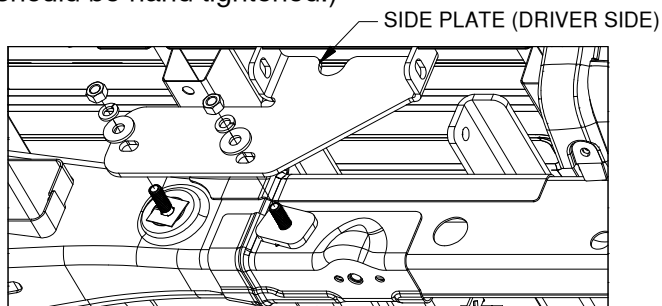

Figure C4: View of driver side wheel well.
- 3. Install side plates.** Each side plate (driver and passenger side) will install over the carriage bolts previously placed into the frame. Slowly guide the side plate over the carriage bolts and between the cross members. Attach each side plate with two 1/2" washers, 1/2" lock washers, and 1/2" finish nuts. See Figure C4. Do not fully tighten at this time. (Hardware should be hand tightened.)